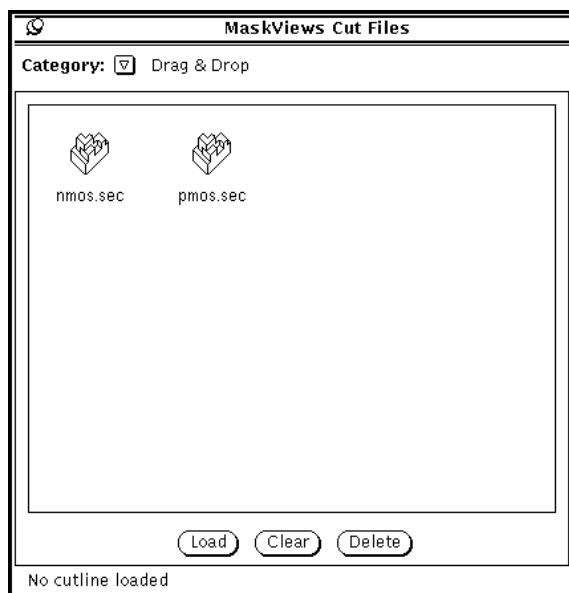

Figure 4-24: MaskViews Cut Files - Drag and Drop Category
2. Bring up the **MaskViews Cut Files** popup (Figure 4-24) in DECKBUILD and set **Category** to **Drag & Drop**. Both this popup and the cutline viewer popup from MASKVIEWS must be visible on your screen.